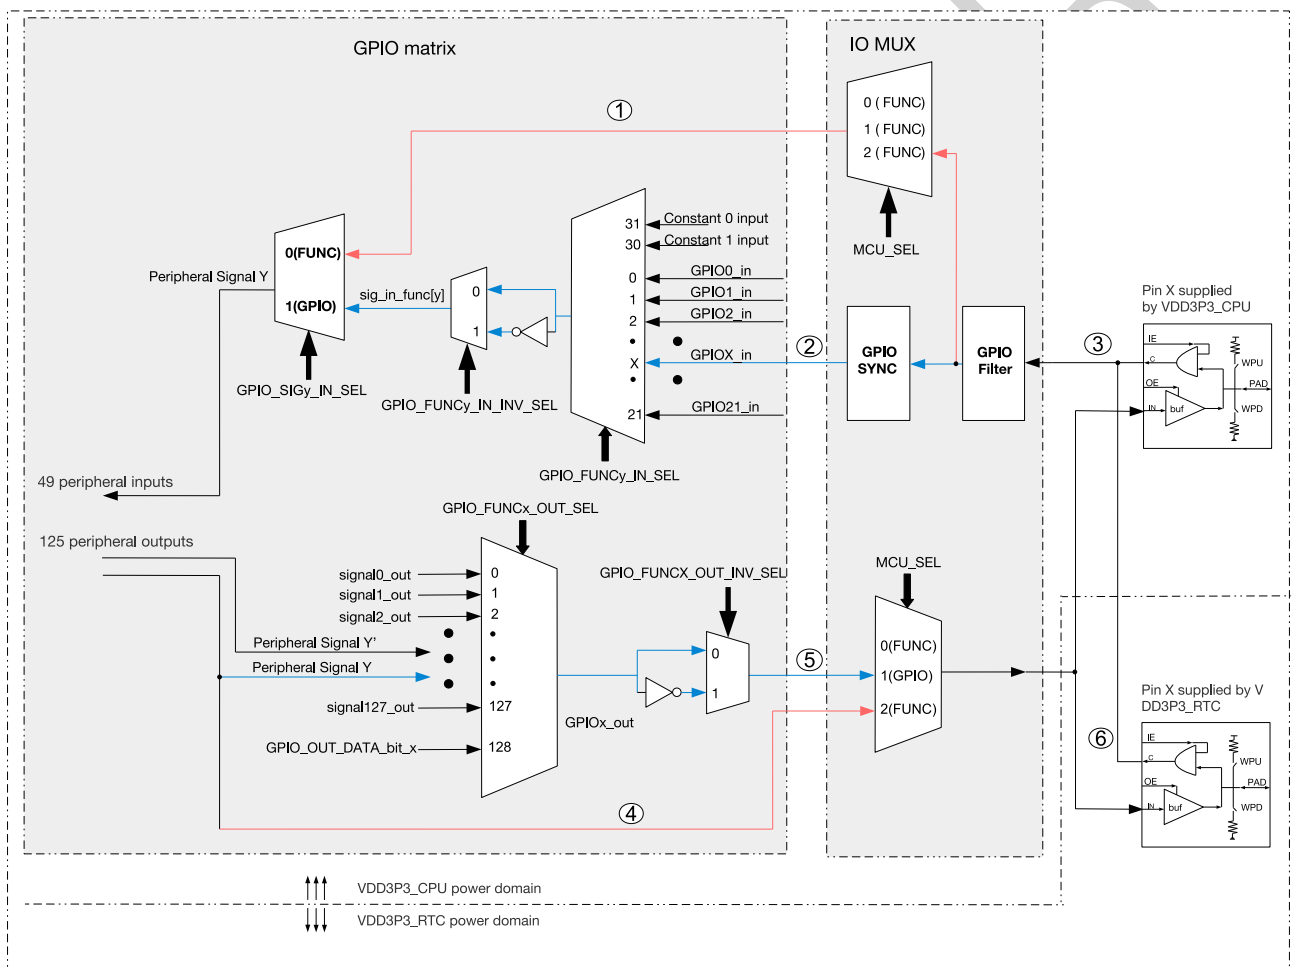

Figure 4-2. Architecture of IO MUX and GPIO Matrix
- Figure 4-2 shows in details how IO MUX and GPIO matrix route signals from pins to peripherals, and from peripherals to pins.
When signals are directed from pins using GPIO matrix, the signals will be synchronized to the APB bus clock by GPIO SYNC hardware, then go to GPIO matrix. This synchronization applies to all GPIO matrix signals but does not apply when using the IO MUX, see Figure 4-2.
Some of the 125 output signals (0 ~ 59, 63~ 127) can be set to go through GPIO matrix into IO MUX and then to a pin. Figure 4-2 illustrates the configuration.